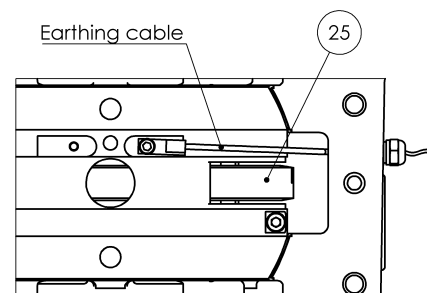

Fig. 32.1
- Make sure that the cable is fully stretched and out of the loose oil ring (25) reach (Fig. 32.1).